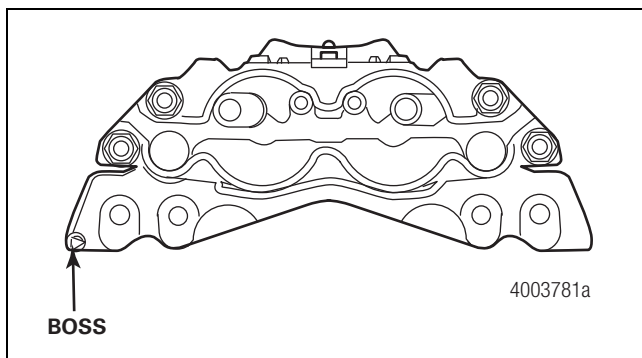

Figure 5.4
- Install the caliper body onto the carrier. Hand-tighten the guide pin bolts. Verify that the caliper slides easily on the sleeves. First tighten the bolt on the side marked with the “T” or “>” symbol to 70-85 lb-ft (95-115 N•m). Figure 5.4. Tighten the other bolt to 70-85 lb-ft (95-115 N•m).